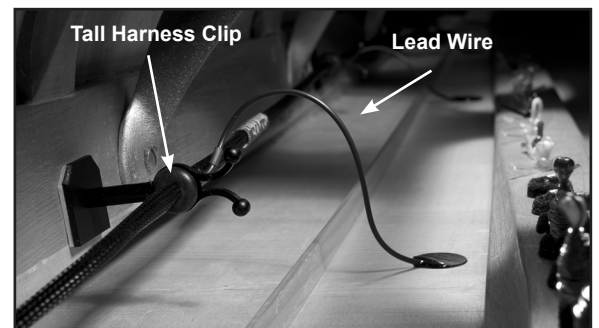

Figure 6 – Installed Pickup Element
1. The lead wire should naturally curve away from the soundboard (*see figure 6*). If necessary, adjust the pickup harness in the clips to ensure that the lead wires won't touch the soundboard and cause unwanted vibration.